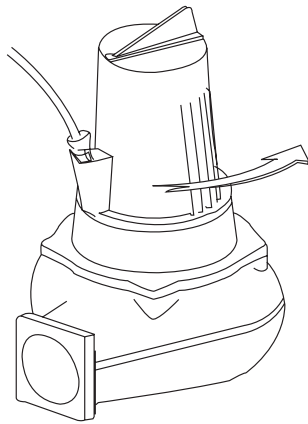

Figure 4
- Starting the pump will give a recoil on the pump frame. Looking at the motor (in vertical position see Figure 4), the recoil is counterclockwise.